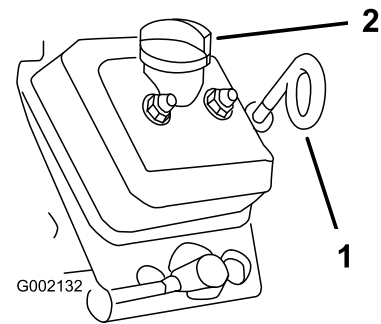

Figure 33
3. Use a rag to clean around the oil dipstick and fill cap (Figure 33) so that dirt cannot fall into the dipstick tube or oil-filler neck and damage the engine.
4. Remove the dipstick and wipe it clean (Figure 33).
5. Slide the dipstick into the dipstick tube and ensure that fully seats (Figure 33).
8. Install the filler cap (Figure 33).
9. Install the oil dipstick and firmly seat it (Figure 33).